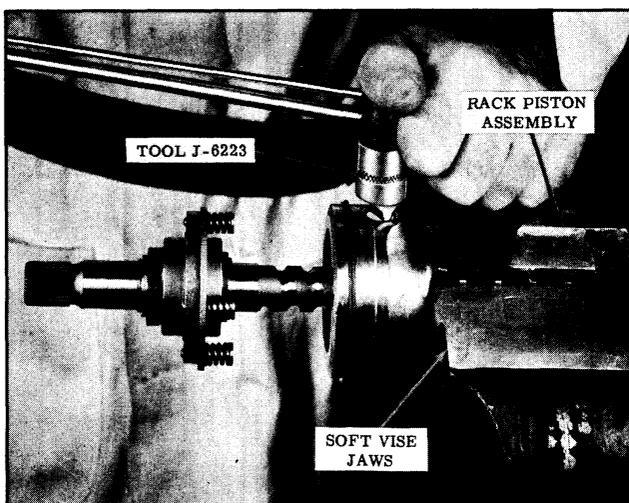

Fig. 5-60 Torqueing Set Screw
13. Clamp rack-piston in a vise and install a new set screw as shown in Fig. 5-60. Torque set screw 20 to 25 ft. lbs. then stake set screen so that rack-piston metal enters both ends of screw slot.